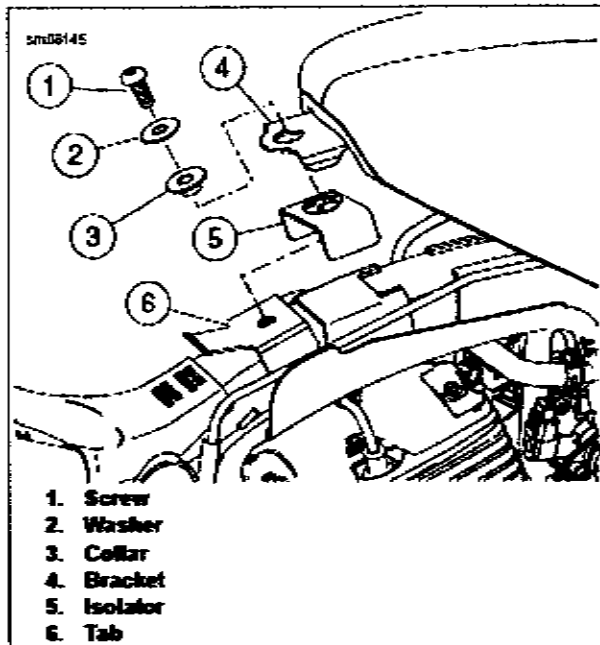

Figure 6-3. Rear Mount
1. See Figure 6-3. Lift rear of fuel tank.
- a. Remove screw (1), washer (2) and collar (3).
- b. Lift fuel tank bracket (4) and isolator (5). Support fuel tank as necessary.
1. See Figure 6-3. Lower fuel tank.
- a. Insert neck of isolator (5) through hole in bracket (4).
- b. Lower fuel tank bracket (4) and isolator (5) onto tab (6).
- c. Install collar (3), washer (2) and screw (1). Tighten to **10-12 N·m (7-9 ft·lb)**.